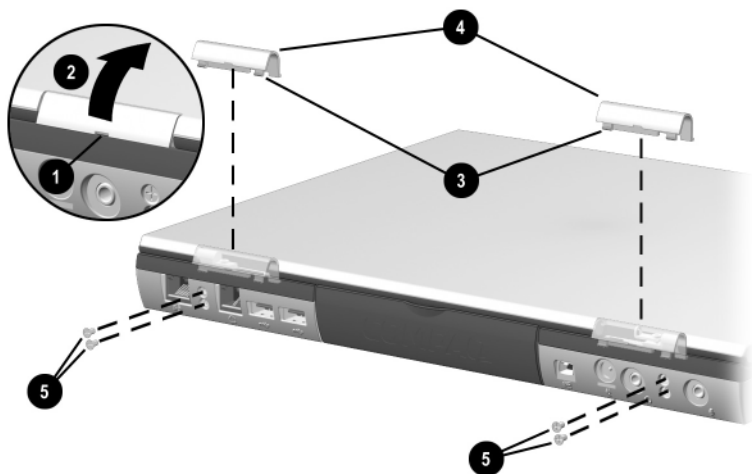

Figure 5-15. Removing the Hinge Covers and Display Screws
5. Insert a small straight edge tool (screwdriver or tweezers) into the notch ❶ in the hinge cover and partially lift the hinge cover ❷ (Figure 5-15).
6. When the hooks ❸ on the inside and outside edges of the hinge covers are exposed, press in on the edges of the hinge covers to disengage them from the top cover.
7. Remove the hinge covers ❹.